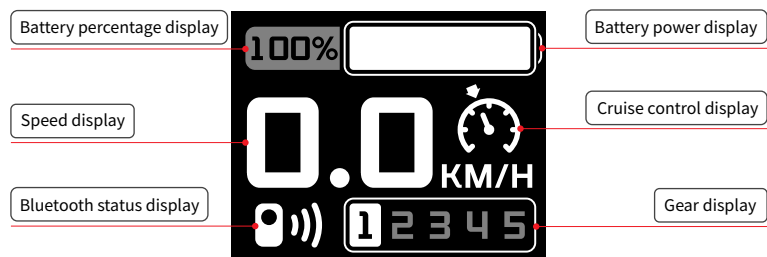

Figure 4.3.3.1
(1) Battery percentage display (as shown in Figure 4.3.3.1)
(2) Speed display (as shown in Figure 4.3.3.1)